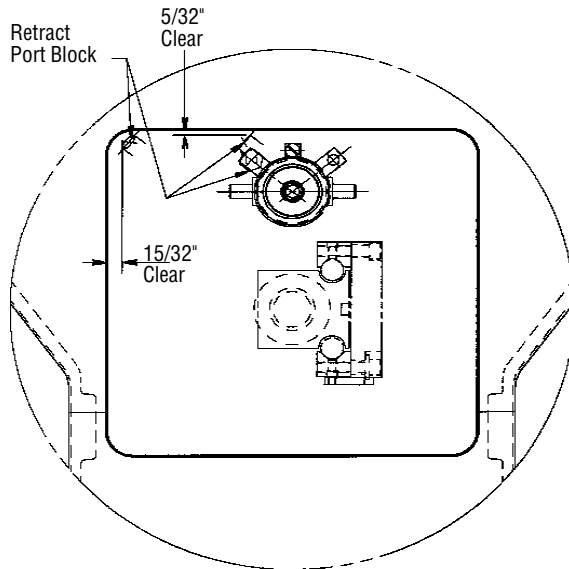

Figure 8-2. Minimum Seat Cylinder/Base Shroud Clearances
4. Lower tabletop until lower end of seat cylinder is just below the upper edge of the shroud. The minimum clearance between the seat cylinder (retract port block) and the shroud should be $15/32"$ on the left side and $5/32"$ on the foot end as shown in Figure 8-2. If either (or both) of these dimensions is less than the minimum, increase the clearance by increasing the projection of the bumpers.